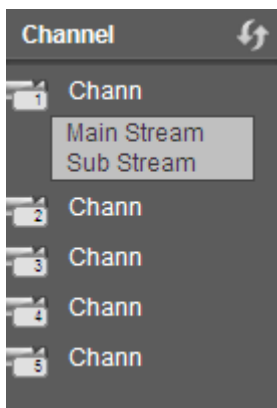

Figure 5-8
- Section 2: There are monitor channels successfully connected to the NVR. Please refer to Figure 5-8 for main stream and extra stream switch information.